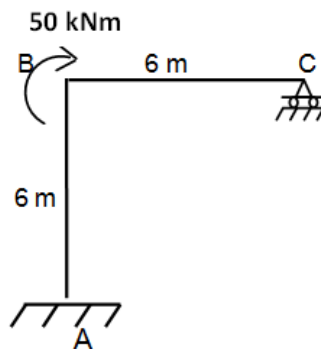

Fig. 5
4. A portal frame is shown in Fig. 5 is subjected to a clockwise moment of 50 kNm at B. Analyse the frame by flexibility method. Assume flexural rigidity is constant for all the members. **(6)**